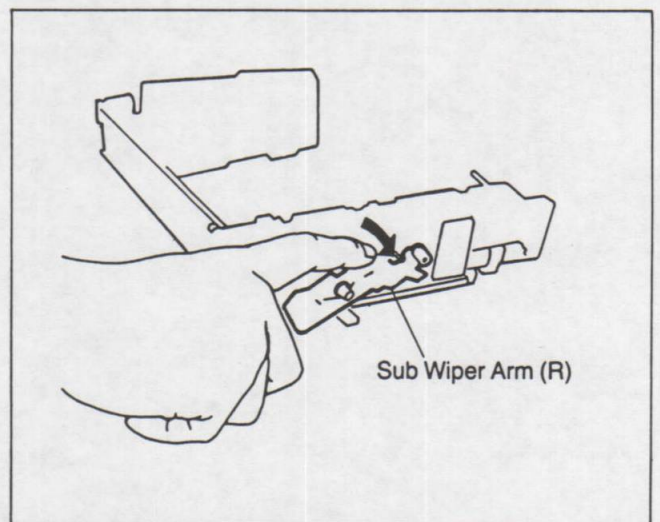

Fig. A23
5. Press the sub wiper arm (R) to direction indicated by arrow so that the sub wiper arm comes to cassette down position completely as shown in Fig.A23 and keep it.